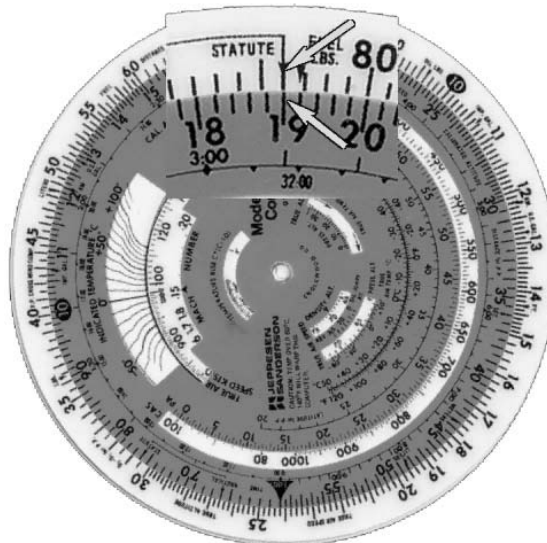

Figure 4.3-23 Speed 4
- Look on the TIME scale over 19 minutes and read the distance directly above. (Figure 4.3-23)